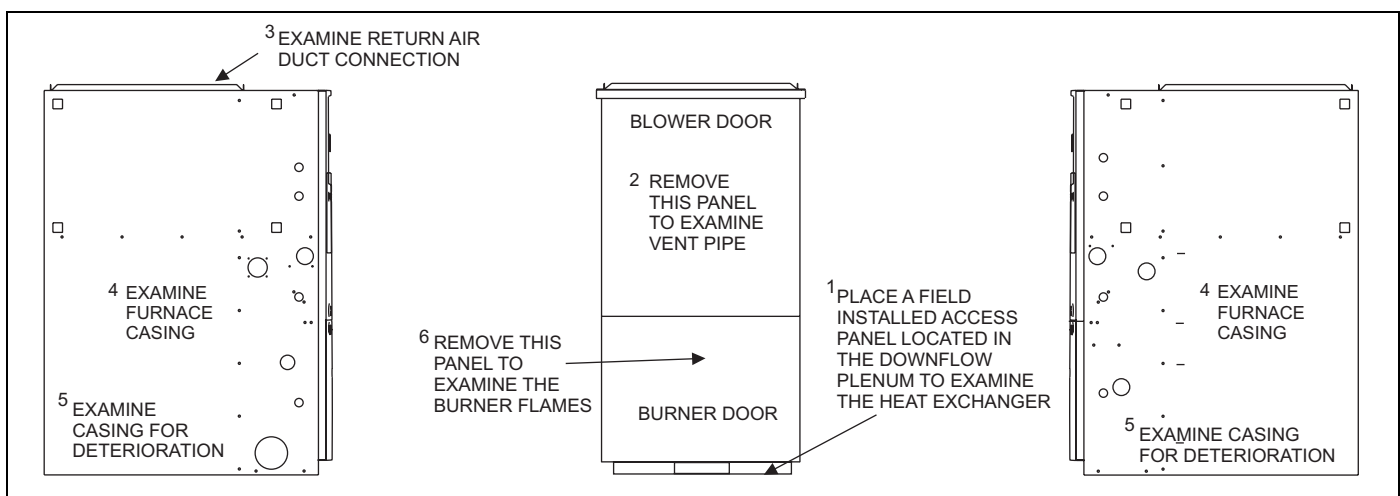

FIGURE 3: Furnace Examination Checkpoints
7. Examine the furnace as outlined above in steps 1 - 6 before each heating season. Use Figure 3 for visual reference.